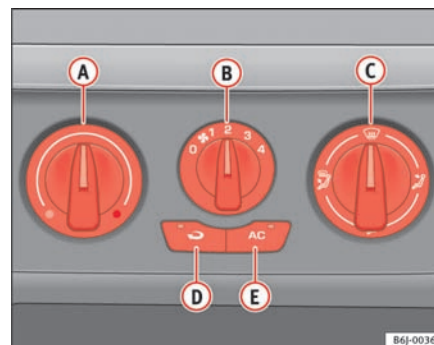

Fig. 87 On the instrument panel: air conditioning controls
- Using the controls $\Rightarrow$ fig. 87 A and C and with the switch B you can adjust the temperature, the air distribution and the blower speed.